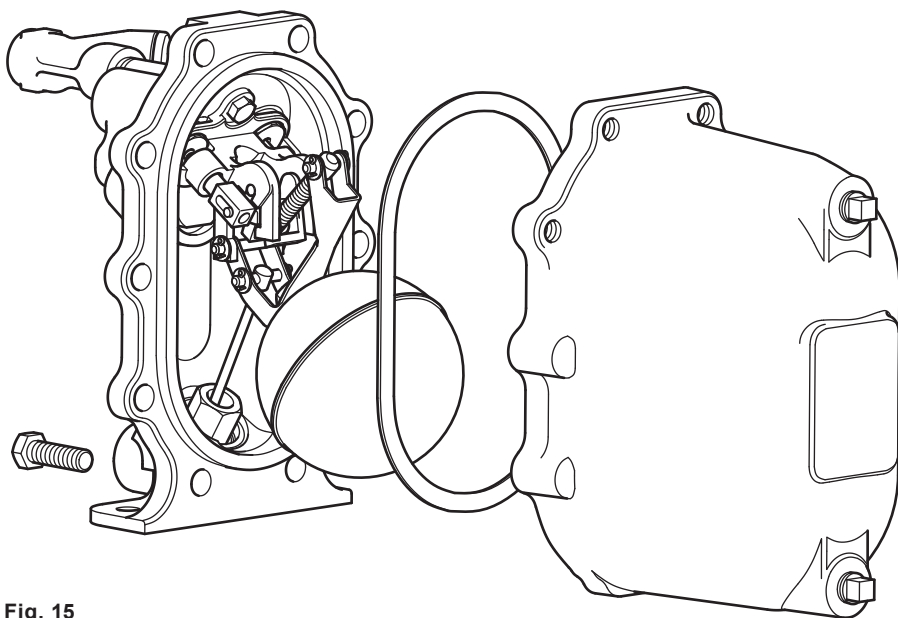

Fig. 15
1. Disconnect all connections to the cover. Remove the cover bolts using a 19 mm A/F socket, then carefully slide the cover assembly away from the body (135 mm [5½"] minimum withdrawal distance will be needed). Lift the cover assembly to a bench or other convenient working surface and clamp securely, avoiding contact with the gasket face (See Fig. 15).